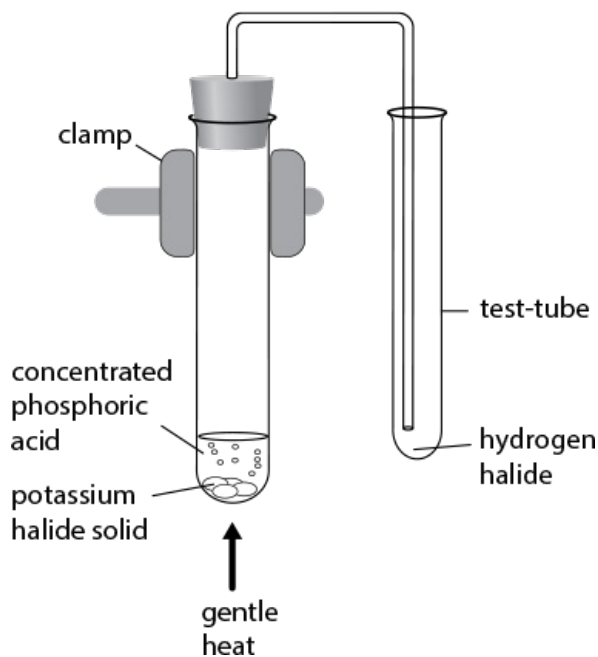

Figure 8.1: Making a hydrogen halide
• approximately 15 *dry* test-tubes and a test-tube rack • stoppers or corks for test-tubes • three *dry* boiling tubes • three right-angled glass delivery tubes (see Figure 8.1) • plastic gloves • Bunsen burner, heat-resistant pad and straight tongs • small spatula • short length of nichrome wire • thin glass stirring rod • paper towels • retort stand, boss and clamp • 250 cm³ beaker
- 1 The apparatus set-up is shown in Figure 8.1. For each hydrogen halide, put approximately 2.00 g of the solid metal halide in a boiling tube along with approximately 1.00 g of phosphorus(V) oxide solid.